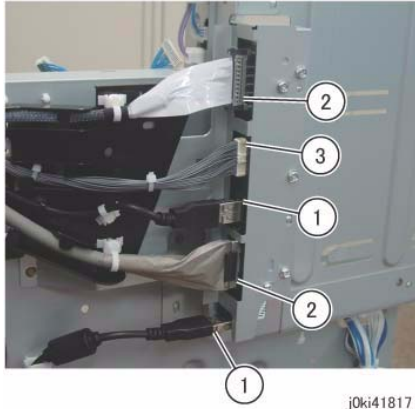

Figure 2 Disconnect the BP PWB connectors
9. Disconnect the connector of the BP PWB. (Figure 2)